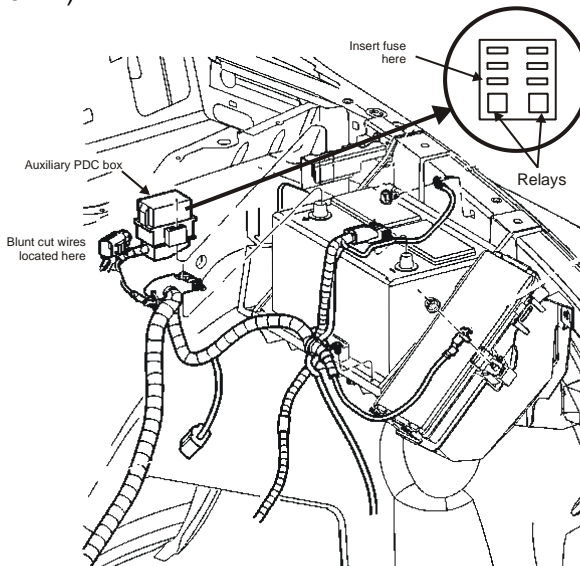

Figure 4.4
- ☐ Install a 20 Amp fuse in the Auxiliary Power Distribution Box (Figure 4.4).